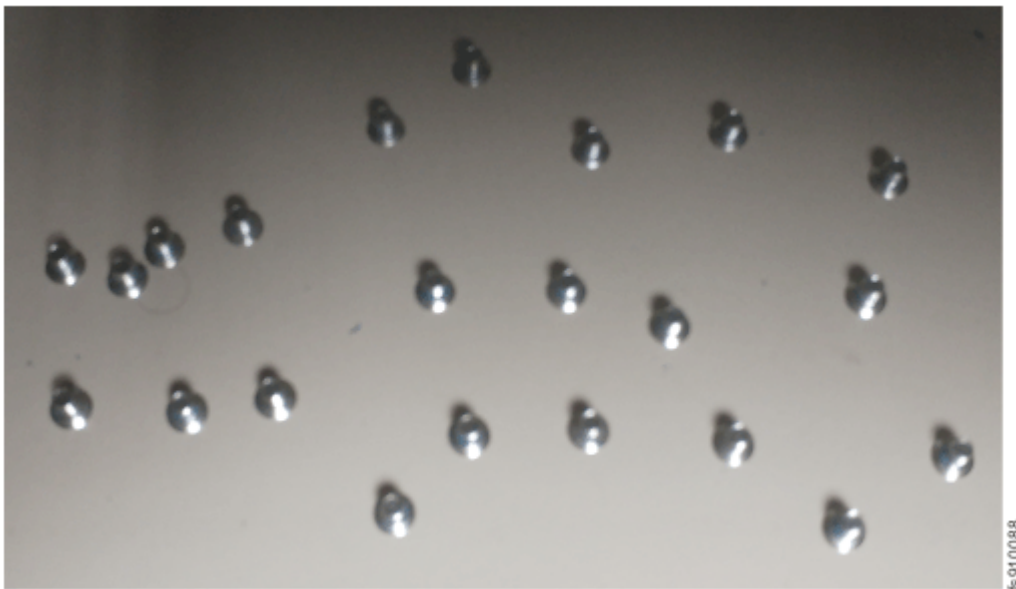

Figure 100. Midplane assembly screws
19. Unpack the replacement midplane assembly. Locate the pack of replacement screws that comes in the package. The package includes 24 screws, but only 22 screws (shown in Figure 100 on page 151) are used to secure the enclosure chassis.